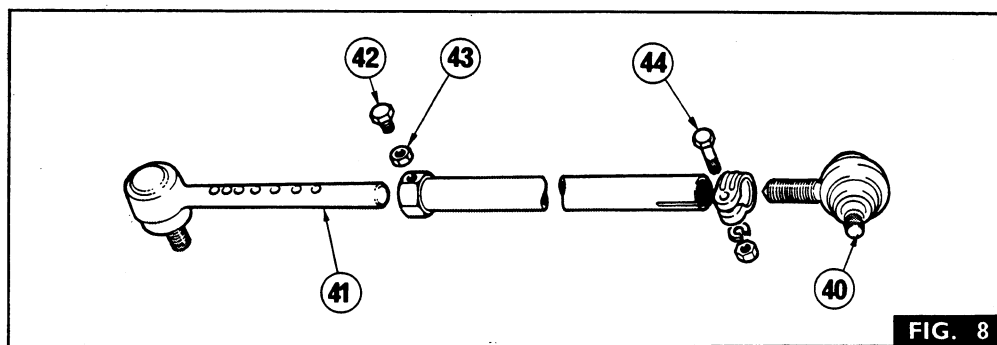

FIG. 8
3. Fig. 8. If necessary slacken the bolt (42) and locknut (43) securing the front ball end (41) and withdraw the ball end.
**NOTE** – DO NOT SLACKEN THE PINCH BOLT (44) OR UNSCREW THE BALL END (40) UNLESS THE BALL END IS TO BE REPLACED.